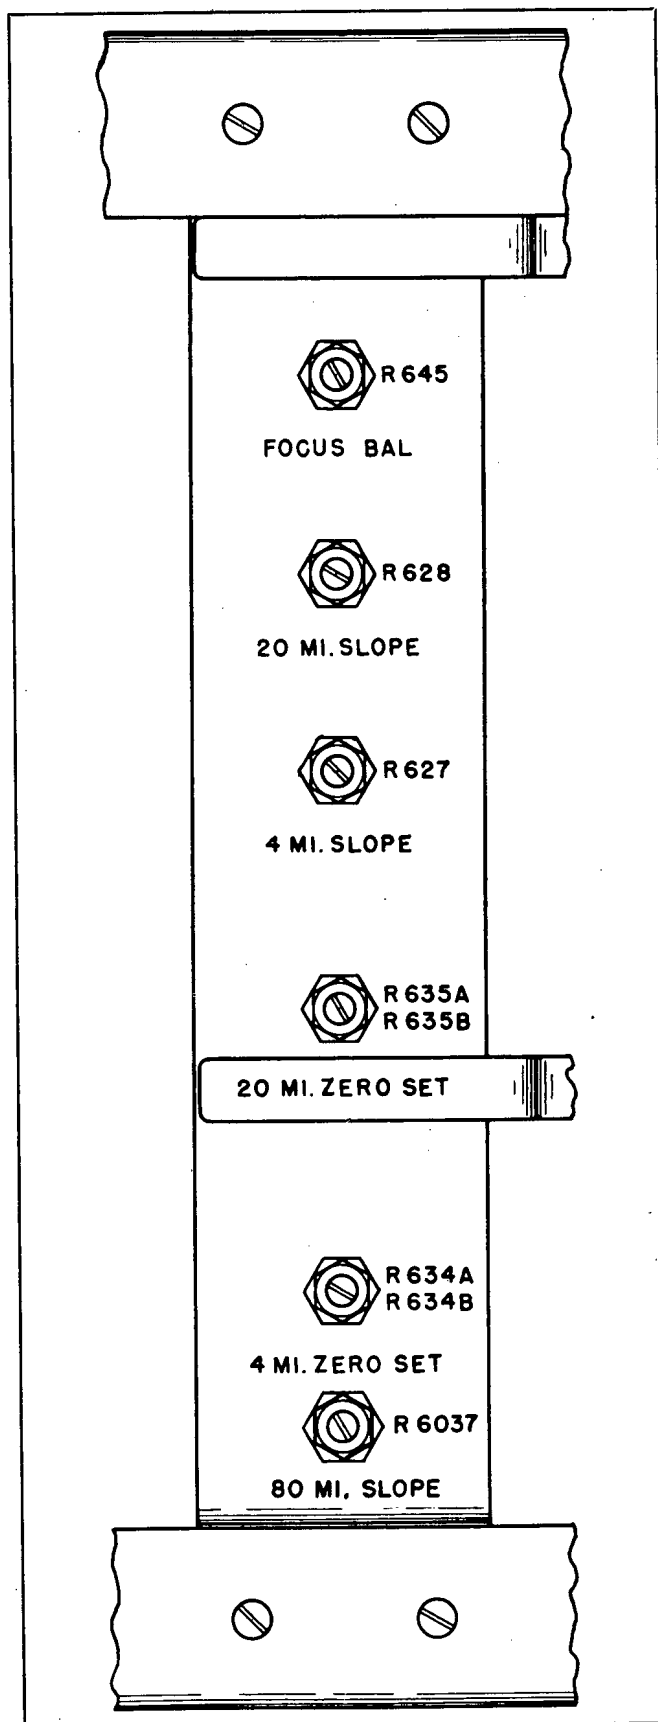
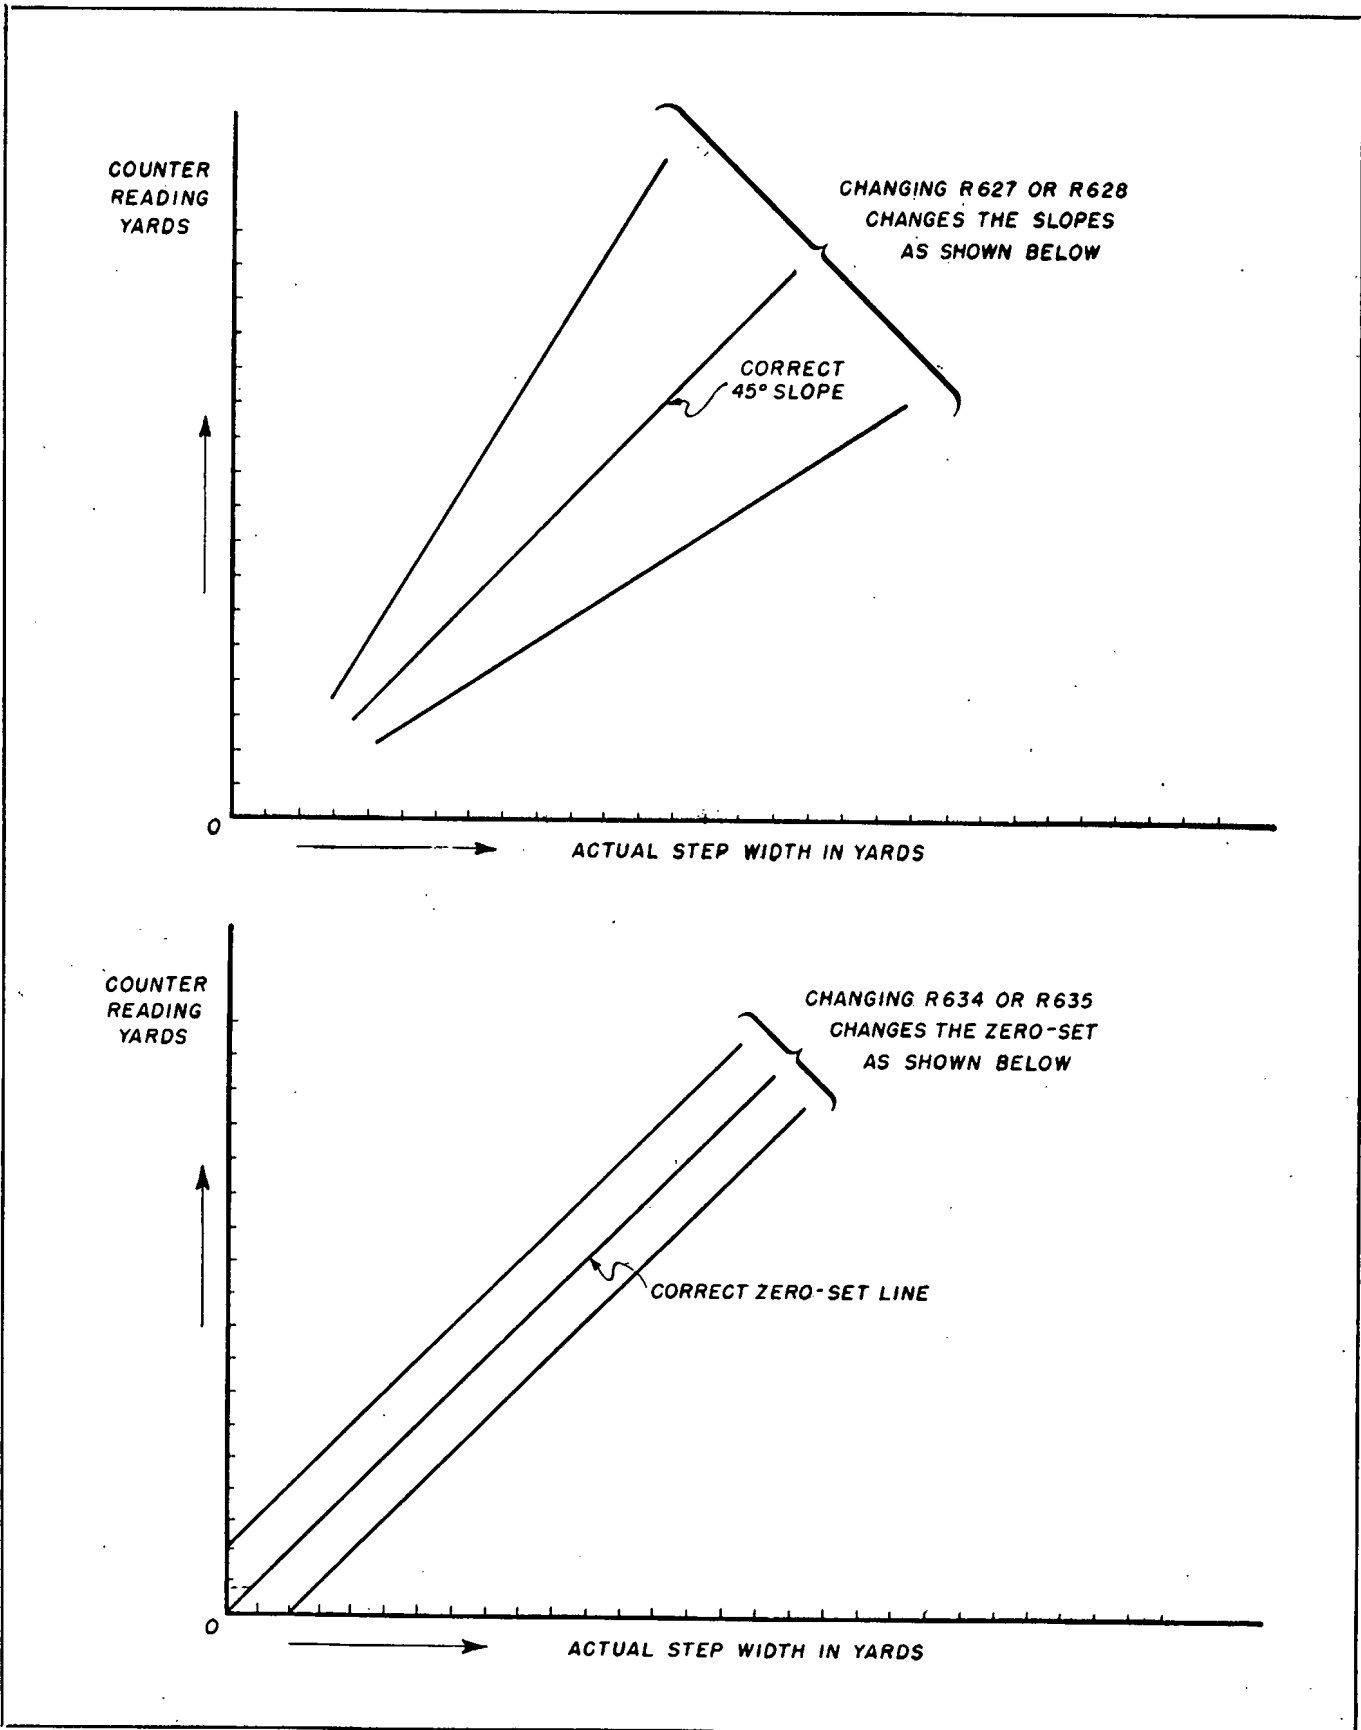

Figure 3-53. Controls on Left Hand Side of Range Scope Chassis
Figure 3-54. Plot of Range vs. Counter Readings
(41) If the sweep cannot be properly focused, turn the I.F. GAIN control on the panel of the Console Receiver to zero and turn the MARKERS switch S-602 on the panel of the RANGE SCOPE to ON. Adjust the FOCUS BAL. control, R-645, and the FOCUS Control, R-655, alternately to obtain the best definition of the sweep. The FOCUS BAL. control is shown in Fig. 3-53 and the FOCUS control is shown in Fig. 3-42. The ideal adjustment is reached when both the sweep and marker pips are as thin and sharp as possible.
(42) If the RANGE YARD readings do not fall within the tolerance given, the range step must be adjusted. Turn the MARKERS switch ON, and set the RANGE switch to the 4-mile range. Pull out the RANGE STEP control and rotate it until the step
lines up with the left-hand range marker. Record the reading in the RANGE YARDS window. Repeat this operation for each marker. Plot the results graphically as shown in Fig. 3-54. A line drawn through the points on the graph should be straight and should bisect the 90-degree angle formed by the two coordinates of the graph. If it does not, adjust the 4-MILE SLOPE control (R-627) shown in Fig. 3-53 and repeat the test. Continue this procedure until the readings do not vary over plus or minus 100 yards. Repeat this procedure for the 20-mile and 80-mile ranges if necessary, using the 20-MILE and 80-MILE SLOPE controls, R-628 and R-6037, shown in Fig. 3-53. Extend the line on the final graphs to see whether they pass through zero on the graph. See Fig. 3-54. If they do not, either of two methods may be used to make the necessary adjustment. One method is to make a slight adjustment of the 4-MILE ZERO SET control, R-634, for the 4-mile range and the 20-MILE ZERO SET control, R-635, for the 20-mile and 80-mile ranges and replot the graphs, continuing this procedure until the line passes through the zero point on the graph. This is the most accurate method. If it is impossible to obtain a straight line in the graphs, it will be necessary for maintenance personnel to adjust the linearity of potentiometer R-632 or replace it. It is not practical for installation personnel to make this adjustment since special equipment and skill are required.
(43) Another calibration method is to rotate the RANGE STEP control until 10,000 appears on the lower counter. Then adjust the 20-MILE ZERO SET control R-635 shown in Fig. 3-53 until the first marker coincides with the vertical portion of the range step. Now rotate the RANGE STEP control until 30,000 appears in the lower window and adjust the 20 MI. SLOPE control R-628 until the third marker and the vertical portion of the range step coincide. Repeat these two operations until the markers are aligned with the counters. Check the markers at 20,000 and 40,000 yards. If they are in error over ± 100 yards the helipot must be adjusted or changed. See Section 7. Place the RANGE SELECTOR switch in its 4-mile position, and rotate the RANGE STEP control until 10,000 appears in the window. Then adjust the 4-MI. ZERO SET control R-634 shown in Fig. 3-53 until the first marker and range step coincide. Next, rotate the RANGE STEP control until 30,000 appears in the lower window and adjust the 4-MI. SLOPE control R-627 until the third marker and the range step coincide. Place the RANGE SELECTOR switch in its 80-mile position and rotate the RANGE STEP control until 40,000 appears in the lower window. Adjust the 80-MI. SLOPE control R-6037 until the fourth marker coincides with the range step.
(44) If an SR-a radar system is being considered, it may be necessary, in order to obtain satisfactory operation of the Range Scope, to adjust the amplitude